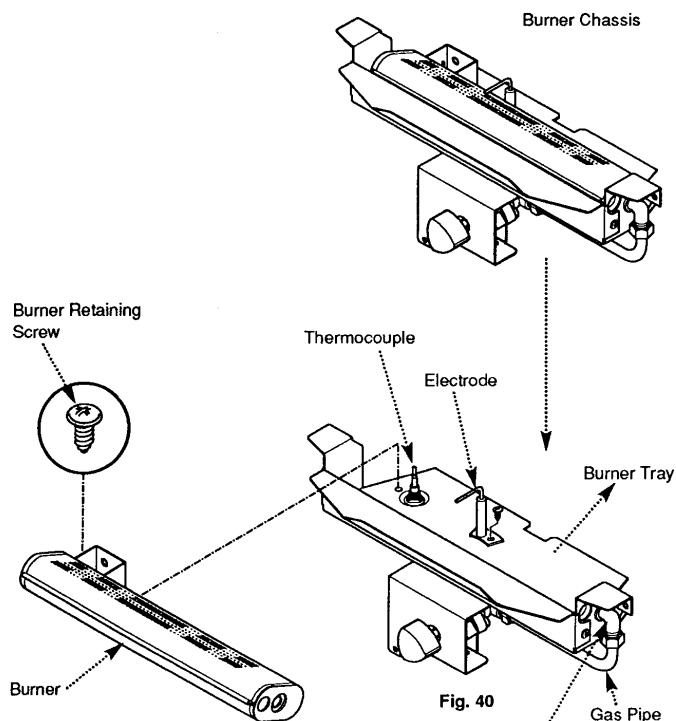

Fig. 41
2. Undo the screw retaining the burner to the burner tray (Fig. 41).